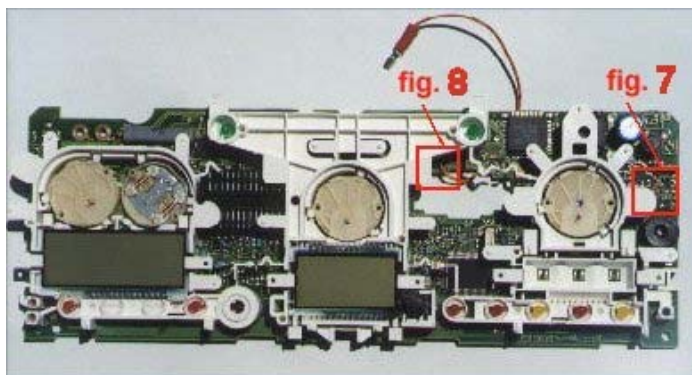
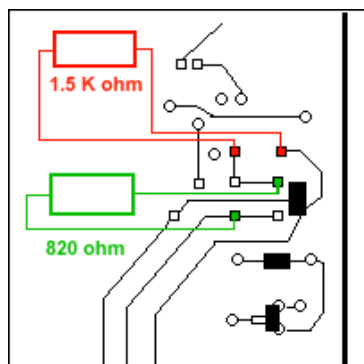
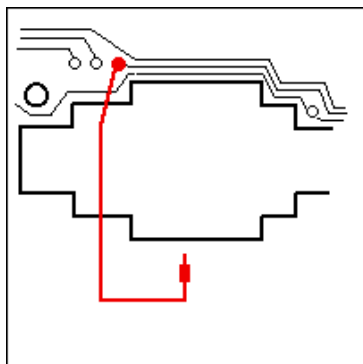

Figure 5
Figure 7
Figure 8
2. Solder in the 2 resistors as shown in fig. 7 (inset from Fig. 5). These enable the MIL LED. Skip this step if using a '96 GLS cluster.
3. Solder in an MIL signal wire as shown in fig. 8 (inset from Fig. 5). Install from the front side. Install a male pull-apart connector on the other end. This will connect to what is now the only wire on the second 28-pin connector on the cluster wiring harness.